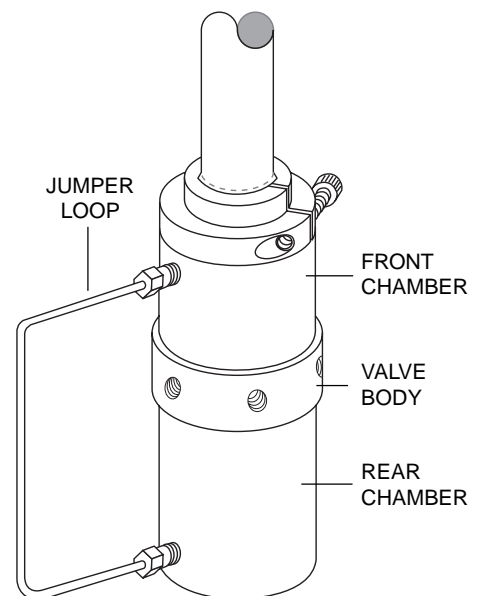

Figure 1: Purge housing assembled on valve
1. Loosen the nuts and remove the jumper loop (shown in **Figure 1**) connecting the front and rear chambers of the purge housing.